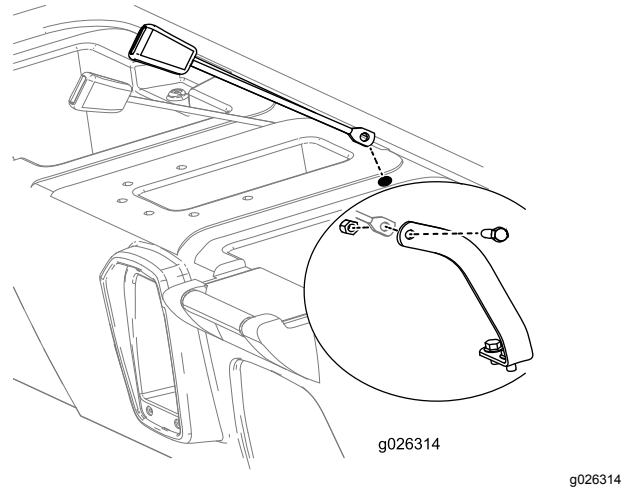

Figure 10
8. Insert the mounting side of the receiver end of each seat belt lock assembly into 1 of the newly drilled holes in the seat base (Figure 10).
9. Mount the receiver end of each seat belt assembly to each seat belt anchor with a bolt (7/16 inch) and nut (7/16 inch) as shown in Figure 10.